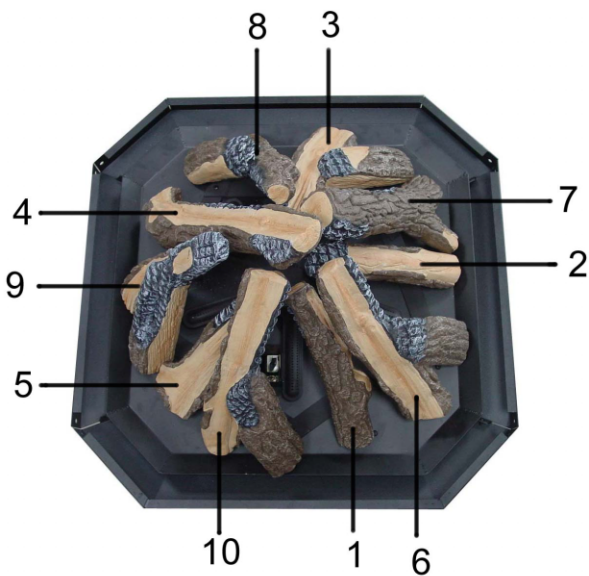

Figure 6-Installing log 6.7.8.9.10
6. Install logs 6,7,8,9,10 as step 5.(See FIG.6)